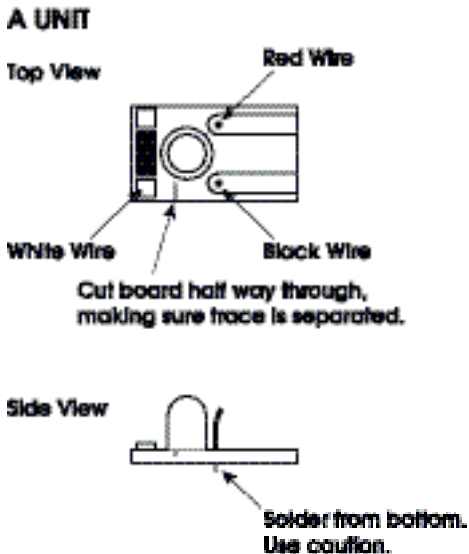

Fig. 1
- **A Unit Only:** With parts side up, cut trace in light board. Solder WHITE, RED and BLACK wires to light board. (See Fig. 1.)